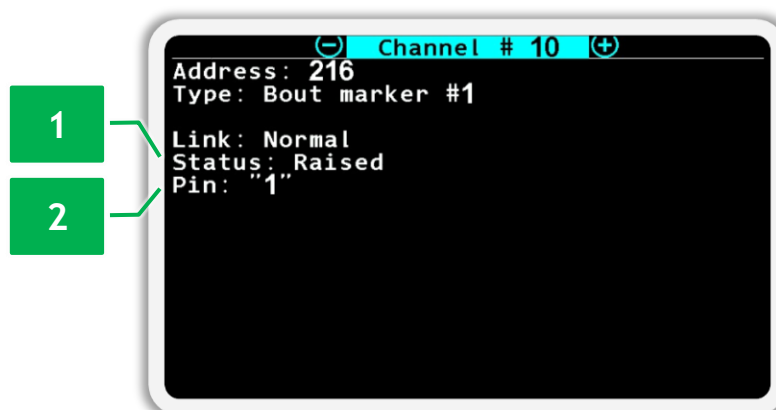

Figure 100 Bout marker sensor status view screen
- *Status* - displays the current position (see Figure 100 p.1). It has two possible values:
- *Pin* - displays the current value of the logic level of the signal (“0” or “1”) at the input of the actuator controller or the input device to which this sensor is connected (see Figure 100 p.2).